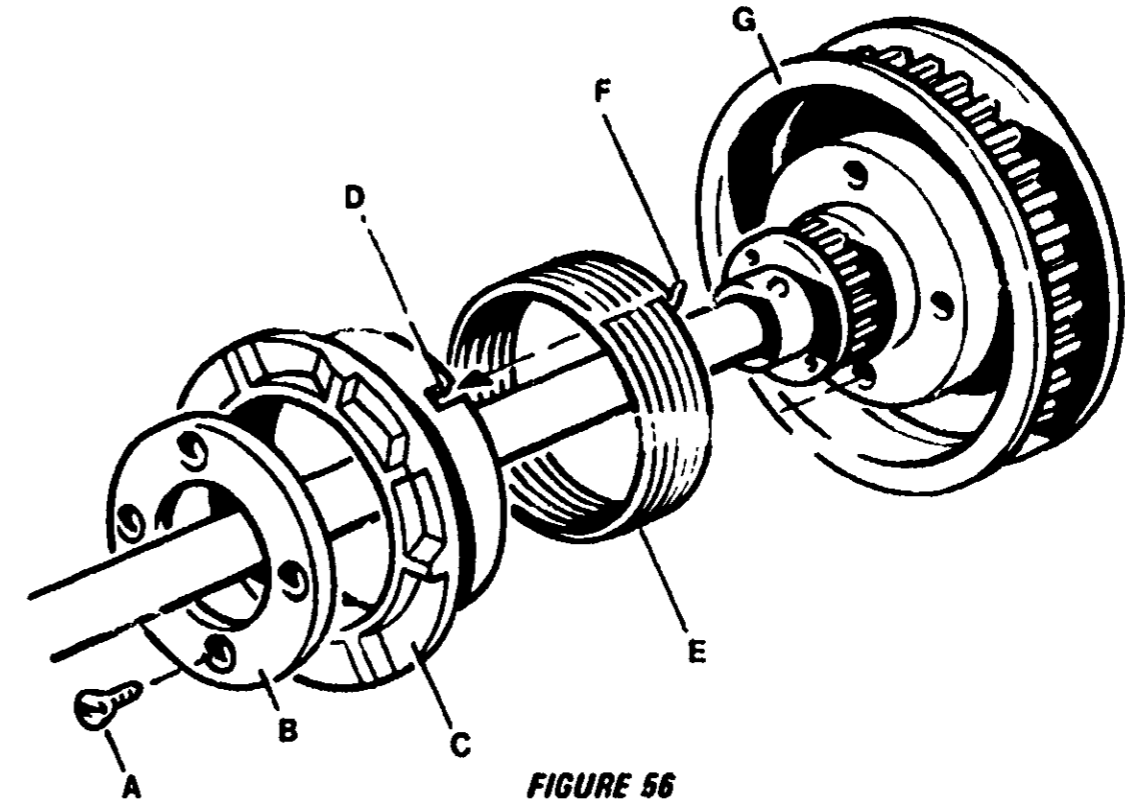

FIGURE 56
- If winder does not engage or disengage properly as described above, check condition of connecting spring (E) located in the clutch unit (Figure 56). To check the spring, it is necessary to remove machine upper shaft and clutch unit
- Remove the four screws (A) (Figure 56). Slide the flange (B), the toothed ring (C) and spring (E) along the main shaft away from pulley (G).
- Ensure hook (F) and spring (E) are installed as shown in Figure 56.
- Install toothed ring (C) (Figure 56) and rotate it until spring hook end (F) enters slot (D). Install flange (B) and tighten the four screws (A) securely.